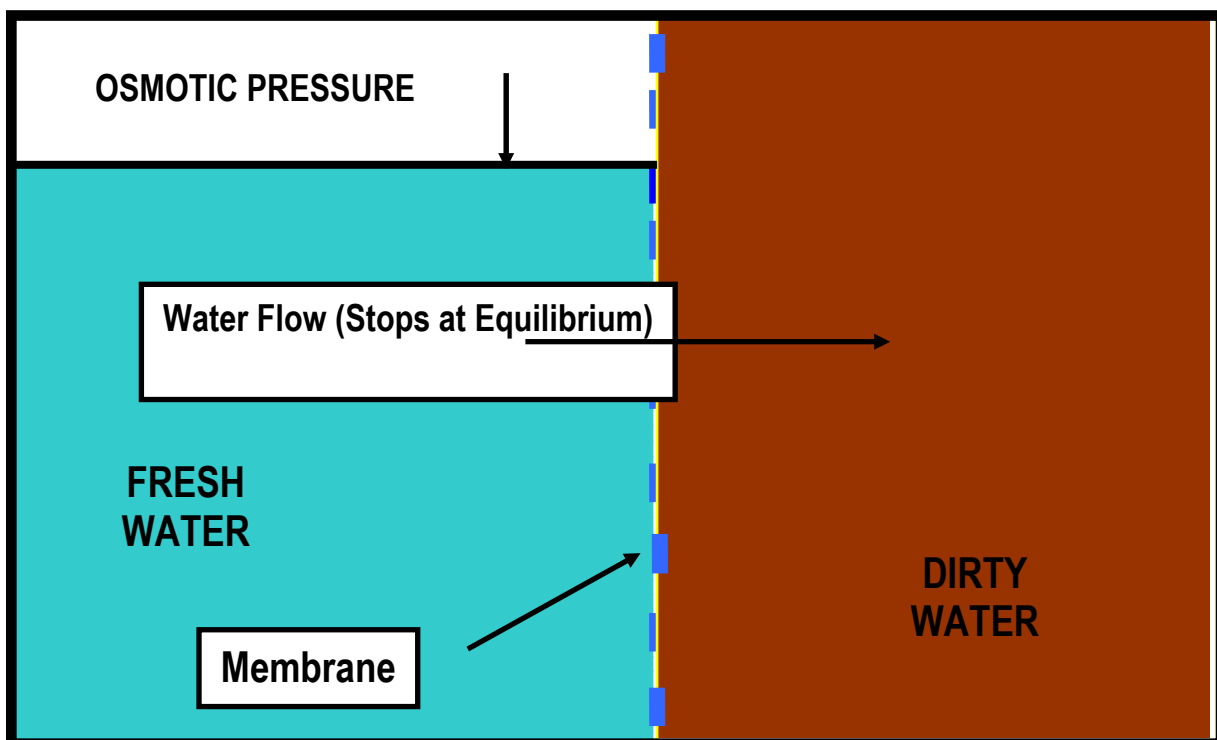

Figure 1.4 Osmotic Pressure
- Figure 1.4 illustrates this concept.